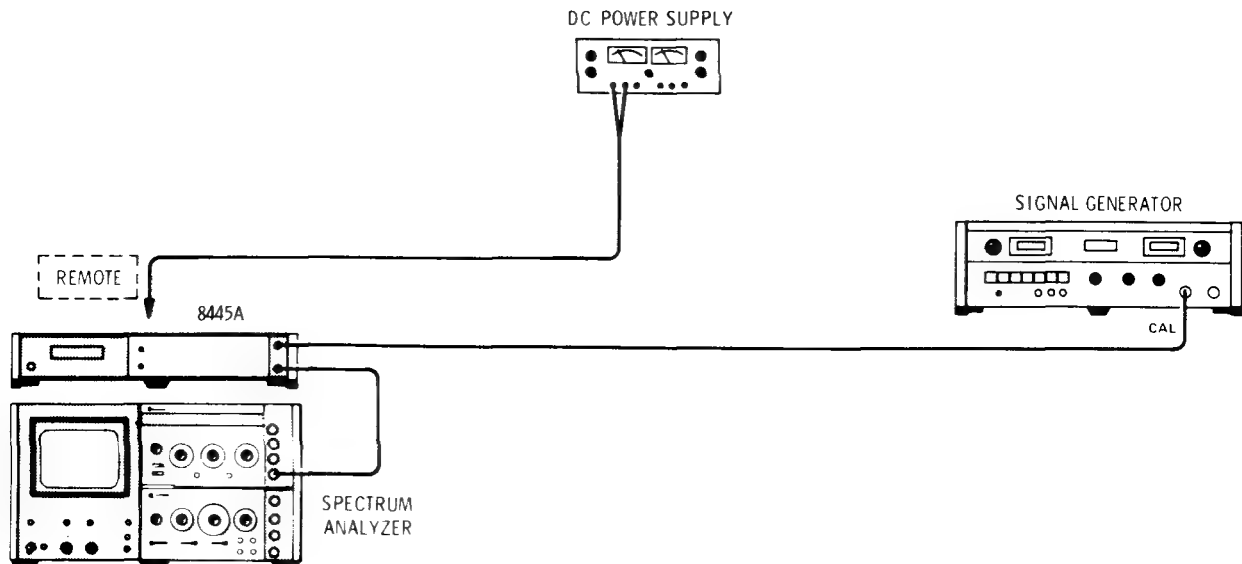

Figure 4-1. Out-of-Band Rejection Test Setup
1. Connect test setup as indicated in Figure 4-1 and make the following control settings: